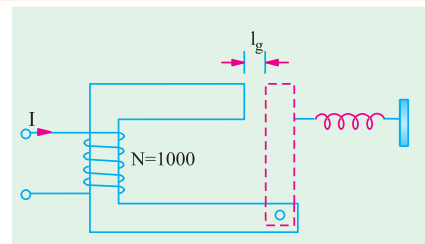

Fig. 8.5
**Example 8.11.** A relay (Fig. 8.5) has a coil of 1000 turns and an air-gap of area  $10 \text{ cm}^2$  and length 1.0 mm. Calculate the rate of change of stored energy in the air-gap of the relay when